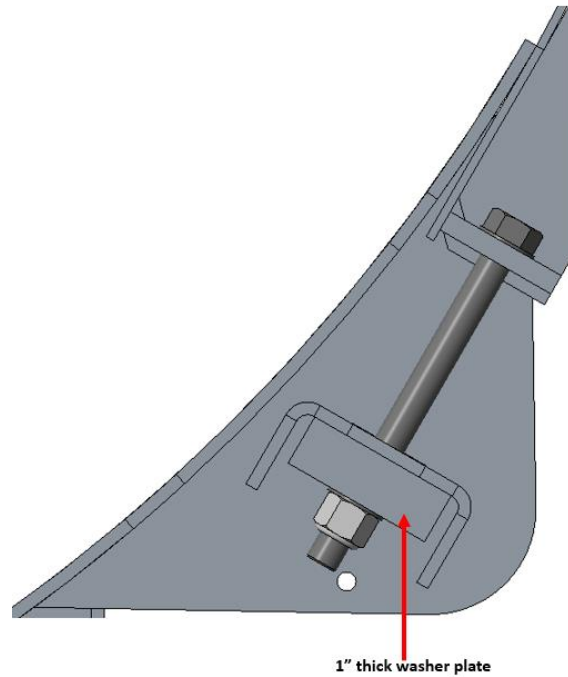
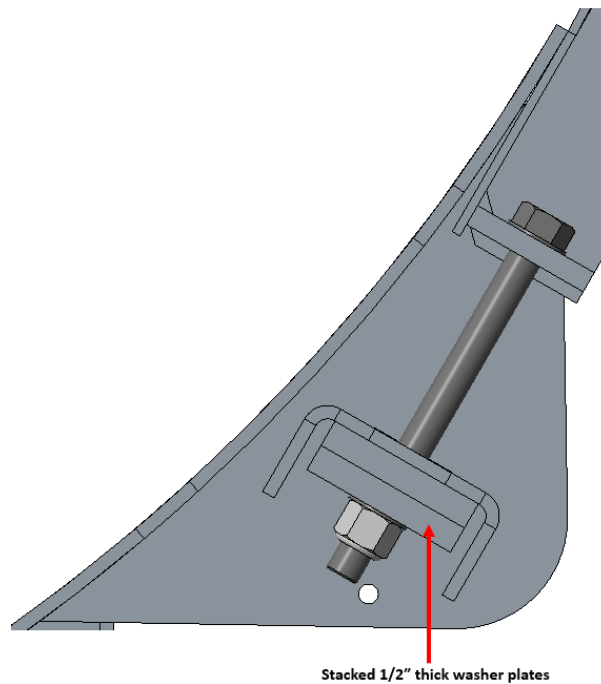

Figure 5: Option 1 installed
Figure 6: Option 2 installed
6. Reinstall washers and **new** nyloc nuts, applying anti-seize if required. Refer to Figure 5 and Figure 6.